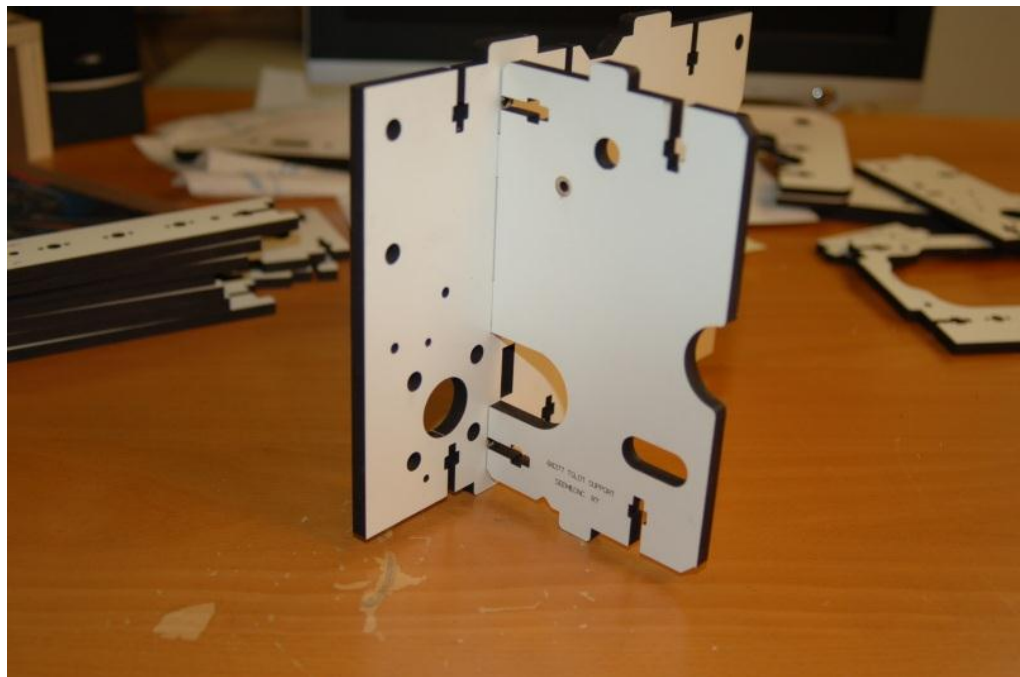

Figure 7 - Dry fitting the T-Slot and Tri-Support together.
1.8 - Dry fit the parts as shown in Fig 7 in order to get an idea how they go together. You'll do this for many steps in the assembly guide. Next, pop out the counter-sink rings on the Tri-Support and install a pair of #6-32 Nylon lock nuts into the notches in the T-Slot Support as shown below.